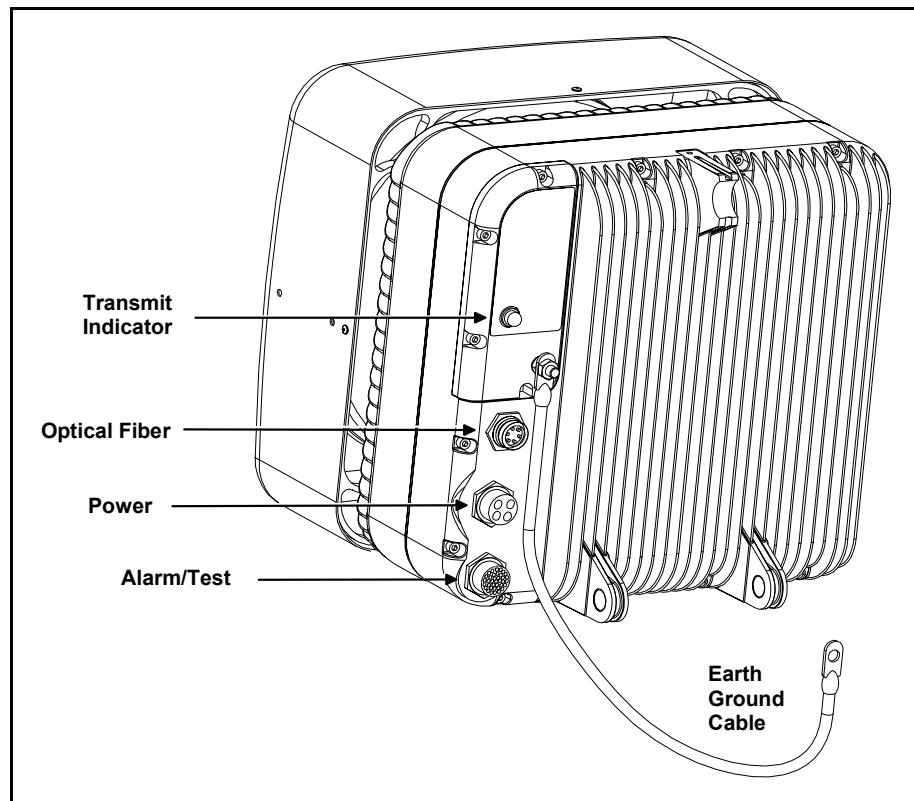

Figure 5-1. IFU Cable Connections
- 2 Remove the power and fiber optic cables from the IFU locations as shown in Figure 5-1.